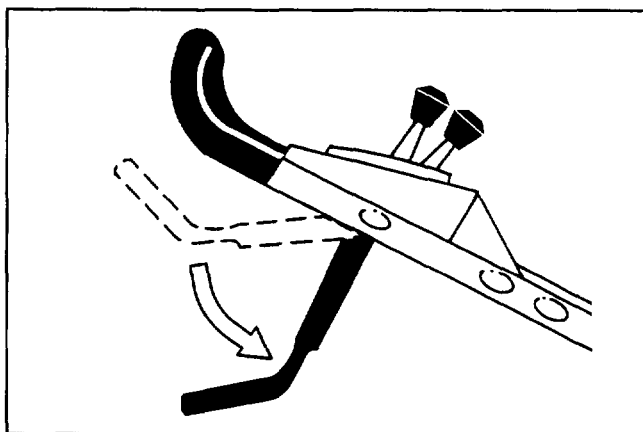

Figure 12
7. Push control bar down to lowest position (Fig. 12).